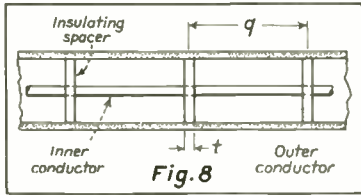

Fig. 8
The dielectric loss per inch is given by (41) multiplied by the ratio of t to q (Fig. 8).